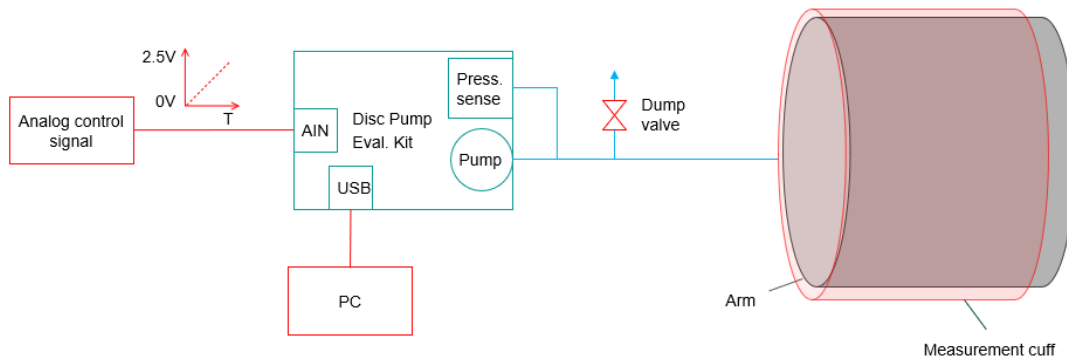

Figure 3 – A basic prototype system using the Piezoelectric Disc Pump Evaluation Kit.
Figure 3 shows a basic test laboratory set-up, using the Disc Pump Evaluation Kit, including:
1. Connect equipment as shown in Figure 3.